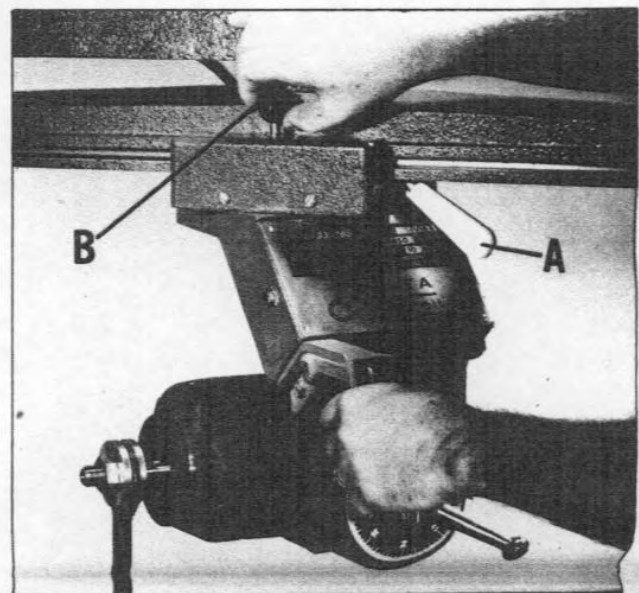

Fig. 10
2. Loosen "yoke swivel lock, (A)", pull out "swivel index (B)" Fig. 10, and place cuttinghead in rip position.